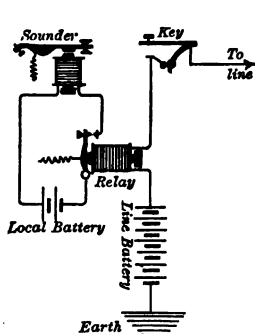

FIG. 132. — Diagram of relay telegraph circuit.
**How the telegraph works.** Some improvements have been made in the telegraph since Morse's day, but in principle the telegraph in use to-day is the same as that invented by Morse. The telegraph consists of four parts, the sender, or key, the sounder, the relay, and the batteries. Figure 132
*Relay.* To overcome this difficulty, a relay is used. The method of connecting this is shown in figure 132. There are two distinct circuits, first, the long distance circuit which operates the relay, and second, the local circuit which operates the sounder. In the long distance circuit only one wire is needed as the ground serves as another conductor through which the current returns. The ends of the main
The relay (figures 132 and 133) is somewhat like the sounder. It consists of an electromagnet and an armature.
**Directions.** Connect the parts of the telegraph instruments including the relay, as shown in figure 132. Study each part carefully to see how it works. Make a drawing showing the connections. Try sending some of the letters of the Morse alphabet.